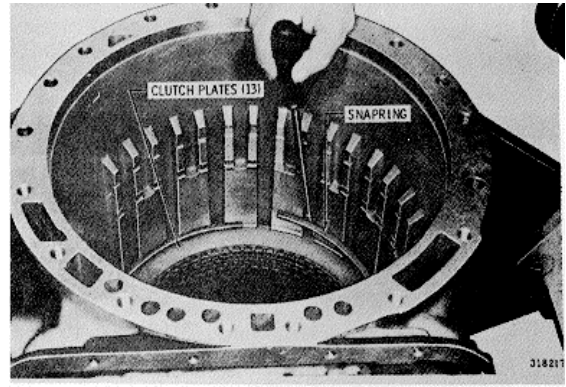

Fig. 7-16. Installing second clutch snapping
(3) Install the snapping that retains the second clutch pack (Fig. 7-16).
(4) Install the third clutch piston assembly into the center support. The lips of the sealrings must be toward the cavity in the